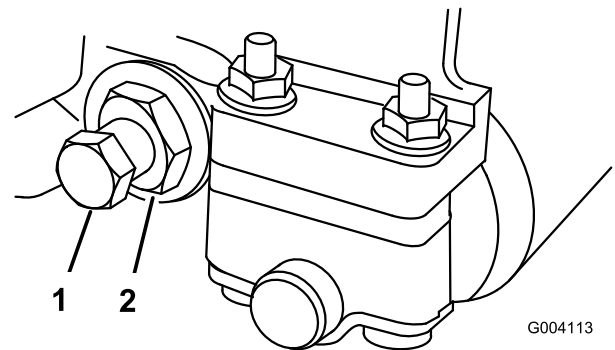

Figure 58
2. Back out the spring tension nut, until the washer is no longer tensioned against the bedbar (Figure 58).
3. On each side of the machine, loosen the jam nut securing the bedbar bolt (Figure 58).